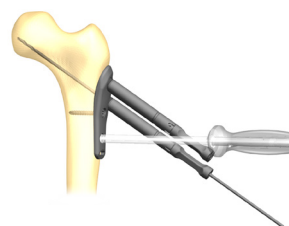

Figure 6e
- Insert a 3.5mm x 18mm PF Pin or a PERI-LOC® 4.5mm Screw through a shaft screw hole (Figure 6e).